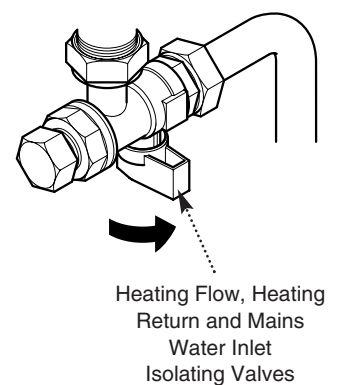

Fig. 16
3. The isolating valves are positioned under the boiler and can be closed by turning their taps to the right towards the wall (Fig. 16).